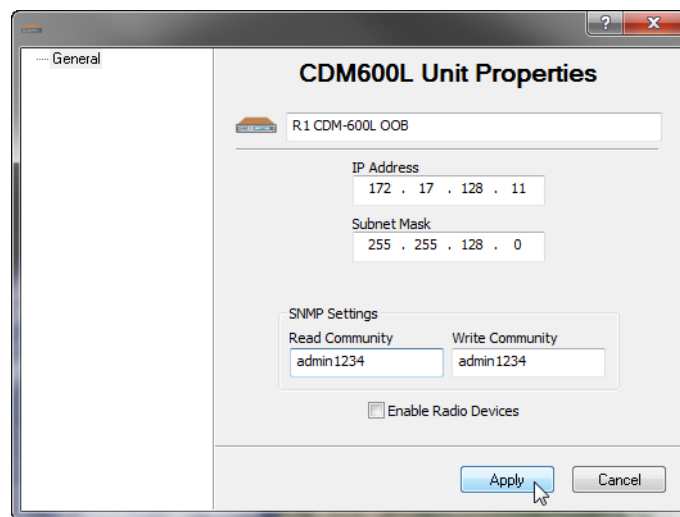

Figure 7-4 CDM- 600L Unit Properties dialog
7. To perform edits to a declared modem, right-click on the newly added unit and select **Properties** from the drop-down menu. The **Unit Properties** dialog will be displayed, as shown in figure 7-4.